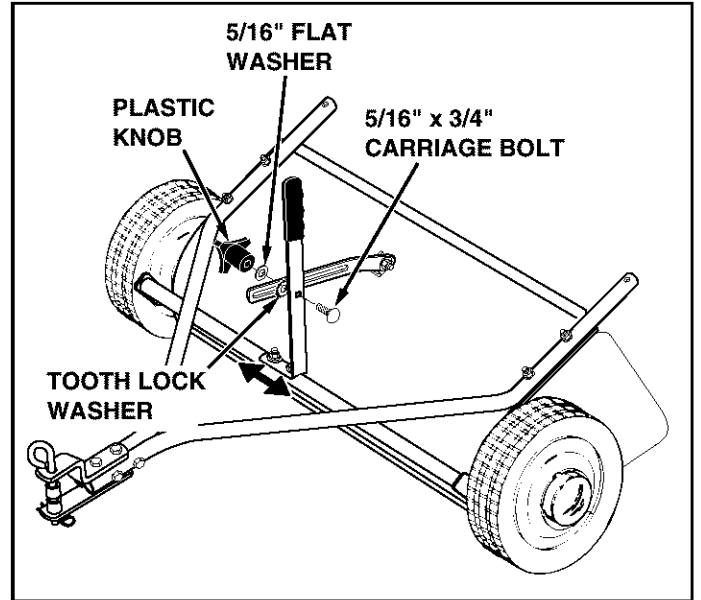

FIGURE 8
- Position the height adjustment handle side to side so that the tooth lock washer can fit between the handle and the height adjustment strap. **Tighten** the nuts securing the height adjustment handle. See figure 8.
- Insert the 5/16" x 3/4" carriage bolt through the height adjustment handle. Assemble onto the bolt, in order, the 5/16" tooth-lock washer, the height adjustment strap, a 5/16" flat washer and the plastic knob. See figure 8.